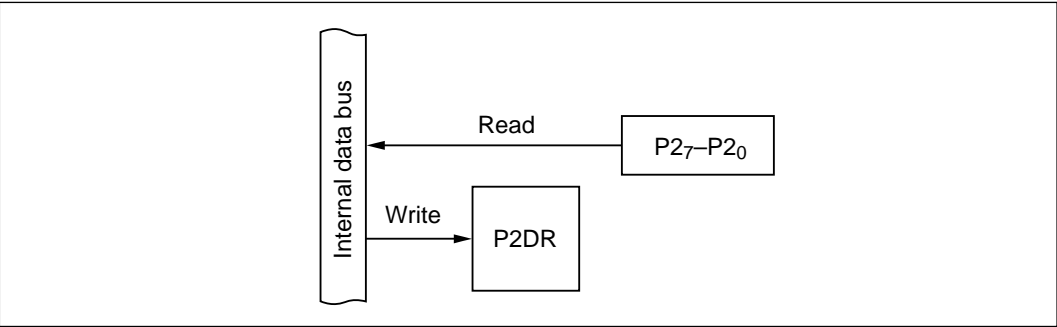

Figure 10-13 Input Port (Modes 2 and 7)
(2) **Input Port (Modes 2 and 7):** Figure 10-13 shows a block diagram illustrating the general-purpose input function. Table 10-9 indicates register read/write data. Values written in the port 2 data register (P2DR) have no effect on general-purpose input lines. When read, P2DR returns the value at the pin.